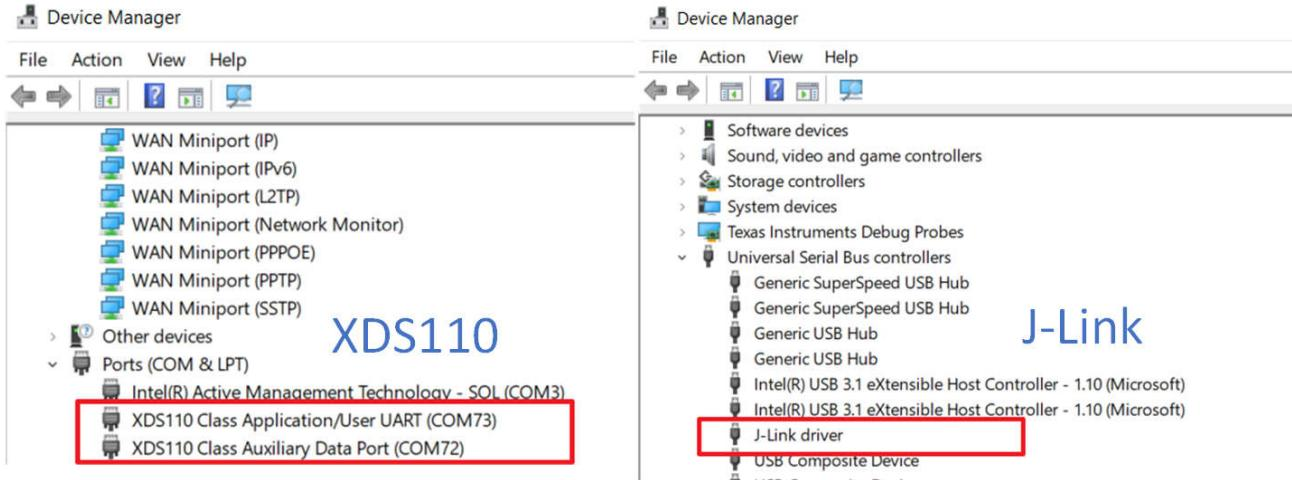

Figure 7-6. Device Manager View
2. Plug in the debugger and check whether the debugger is found by the computer. Check for computer limitations if the debugger does not show like Figure 7-6.